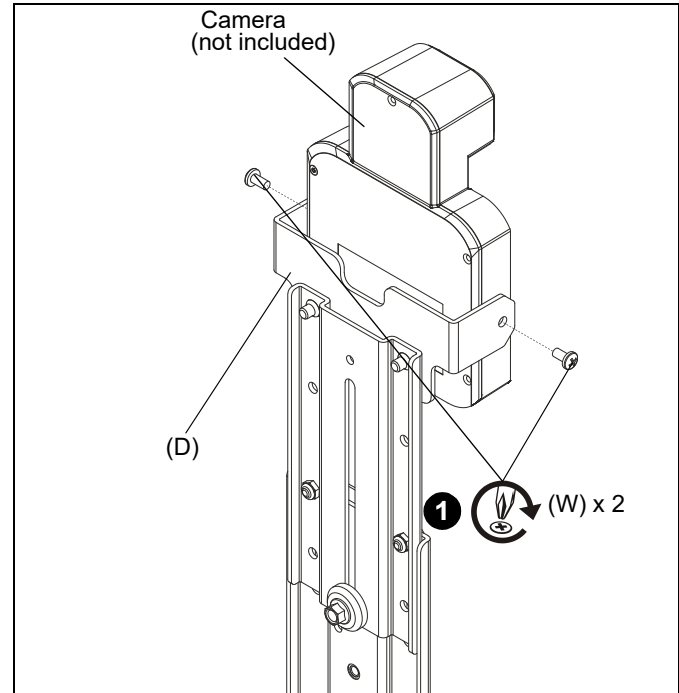

Figure 24
1. Use two #10-32 x 3/8" Phillips pan machine screws (W) to secure camera to bracket (D). (See Figure 24)